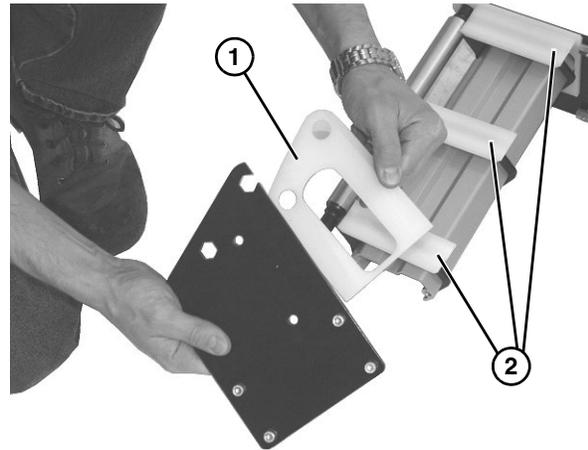

Figure 54
- Check idler terminal assembly on each side (**Figure 54, item 1**) for wear. If worn, replace.
- Remove and replace wear guides (**Figure 54, item 2**) if worn. When replacing, secure onto pins on each support plate.